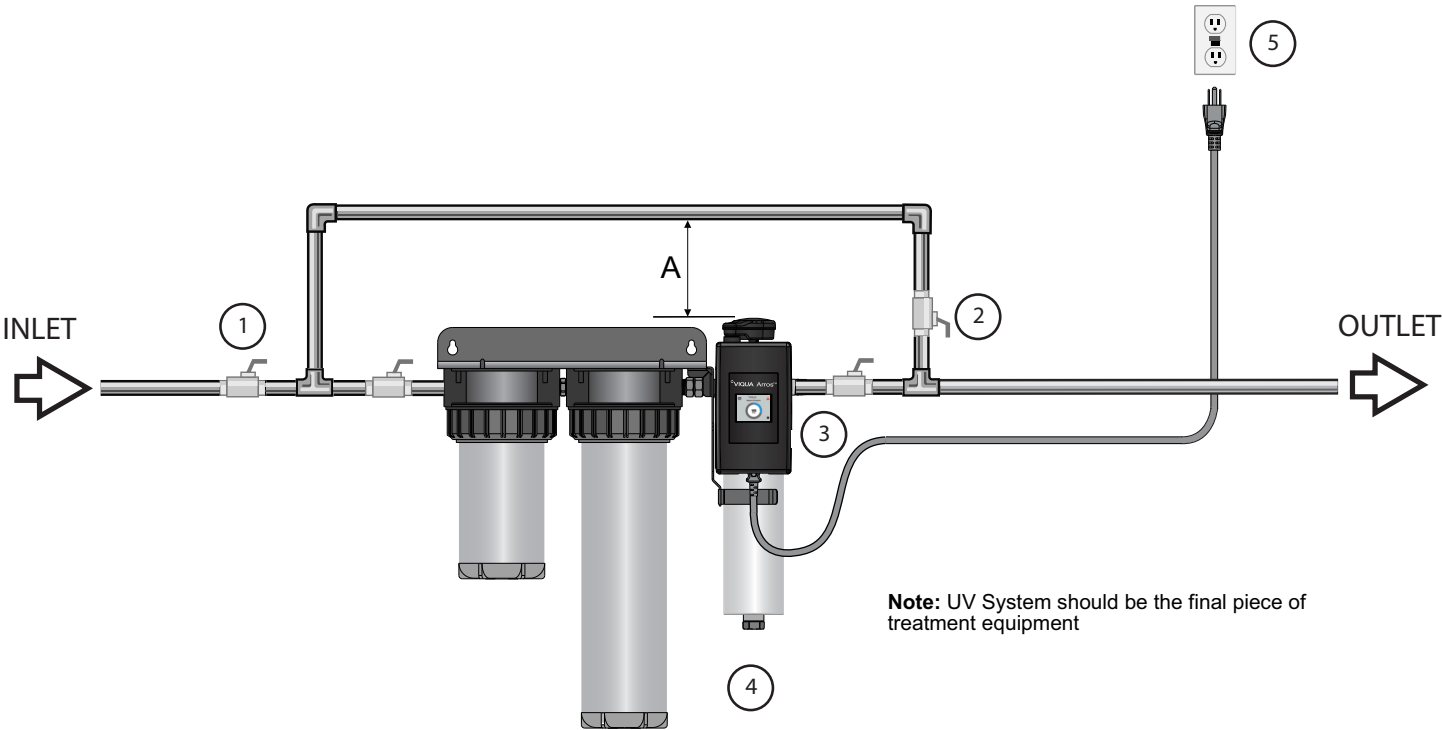

Figure 2 UV System
- Determine appropriate indoor location for the UV System. Refer to Figure 2.
- Make all necessary plumbing connections. Refer to Figure 2.
1. Figure 2 shows the installation of a typical UV System and the related components that may be used for the installation. The use of a by-pass assembly is recommended in case the system requires “off-line” maintenance. In this case, note the system requires a supplementary disinfectant for the distribution system if any water is used during by-pass condition. In addition, during by-pass, the water will NOT be treated and a “DO NOT CONSUME THE WATER” tag should be physically installed on the by-pass assembly until such time as the system is sanitized and returned to service. For more information, refer to Section 3.2. If the water is to be consumed while the system is off-line, the water must be boiled for twenty minutes prior to consumption.